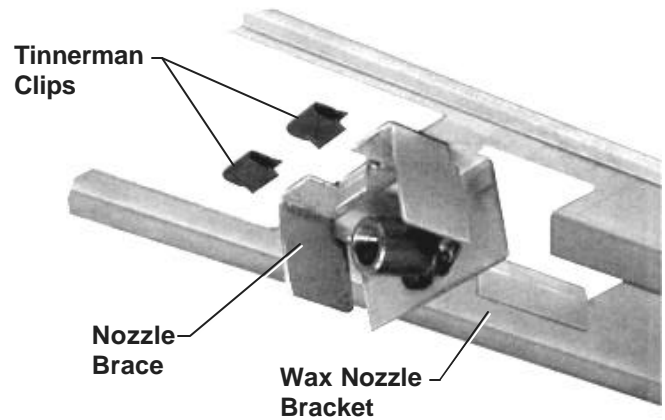

Figure 1
Step 6 (Figure 1)
Step 8 (Figure 1)
Step 9 (Figure 1)